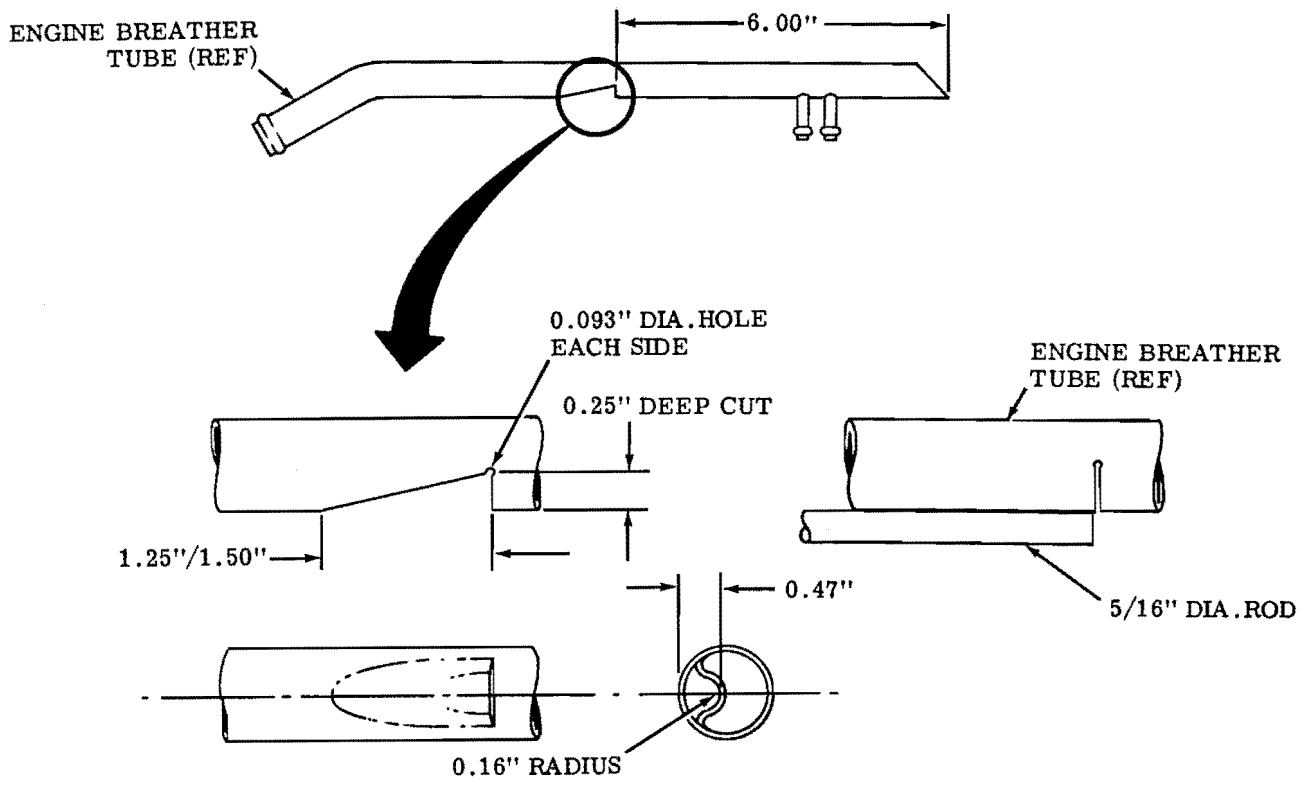

Figure 1.
6. Drill 0.093-inch diameter hole on both sides of engine breather tube (see Figure 1.).
7. Cut a slit in the engine breather tube to dimensions shown in Figure 1.
8. Place a 5/16-inch diameter rod on engine breather tube above slit and form vent hole in breather tube, to dimensions shown in Figure 1., by hitting rod with hammer.